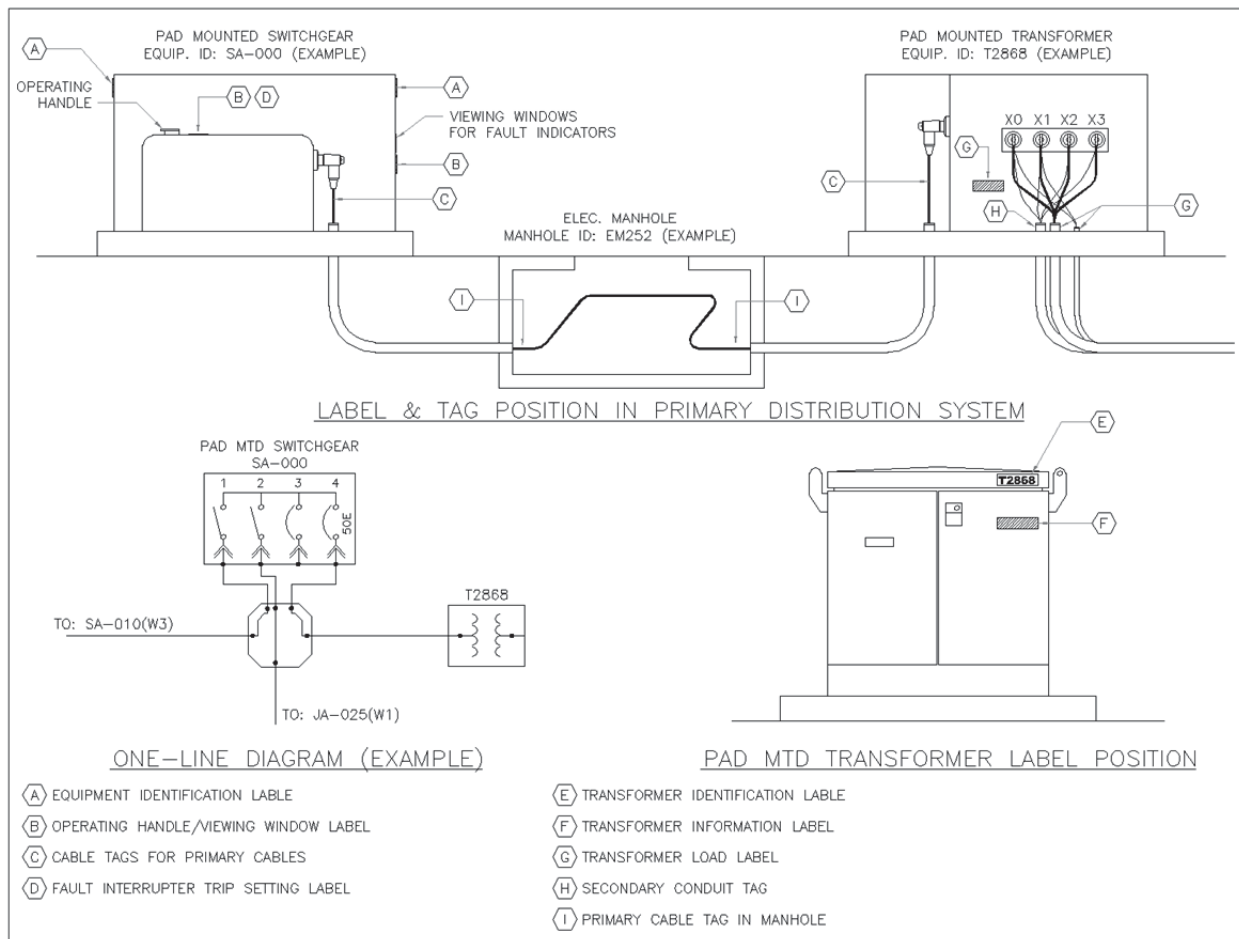

Figure-1 Illustration of Labeling for Primary Distribution System
- Figure-1 Illustration of Labeling for Primary Distribution System
- 2.1.3. The points of labeling and tagging are indicated on Figure-1 Illustration of Labeling for Primary Distribution System.